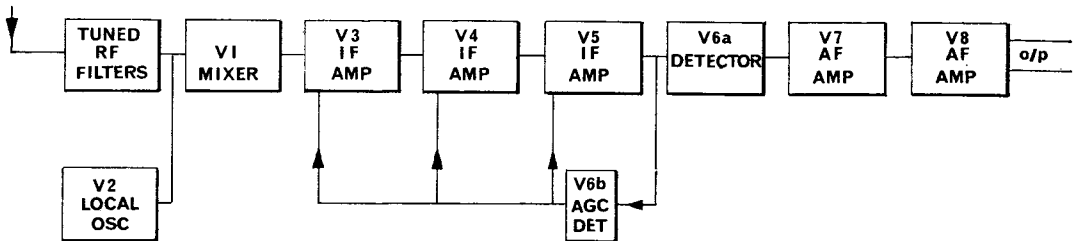

Fig. 5. Tone receiver block diagram
13. The use of a signal generator for fault finding by the signal substitution method provides a rapid means of isolating the trouble in a receiver, or amplifier, to a single stage. It is the only suitable method of fault finding where a receiver is working more or less normally but has a lower power output than is acceptable as serviceable. In this method, a signal is applied successively to the various stages of the receiver circuit, starting with the audio output stages and working back to the input. Tables giving stage gain and the signal levels to apply to a receiver are given in the servicing information section of the equipment Air Publication (Vol. 1). An example of this type of test is given in the following paragraphs for the tone receiver shown in block diagram form in figure 5.
16. Valve-pin voltage measurements. The stage by stage tests carried out as described above will indicate which stage of the receiver is unserviceable or has a stage gain which is not acceptable. To localize the fault to a component for repair, extra readings are necessary in the faulty stage and possibly in the output of the previous stage or the input of the following stage. To assist the technician, a table giving the voltages on all valve pins in the receiver is also given in the servicing Air Publication. These readings are typical values obtained from a serviceable receiver operated *under standard operating conditions*. In the case of the receiver shown in figure 5:—set the automatic gain control adjustment to the centre of its travel, connect an r.f. signal generator to the aerial socket and adjust its output level until a valve voltmeter shows 4.5V at the audio output, adjust the a.g.c. for a valve voltmeter reading of 3.15 volts. The valve electrode voltages under these conditions of operation are then as shown in the table (see figure 8). The meter used to obtain these readings is *specified* at the bottom of the table. If a different type of meter is used an allowance must be made for any circuit loading due to differences in meter impedance.